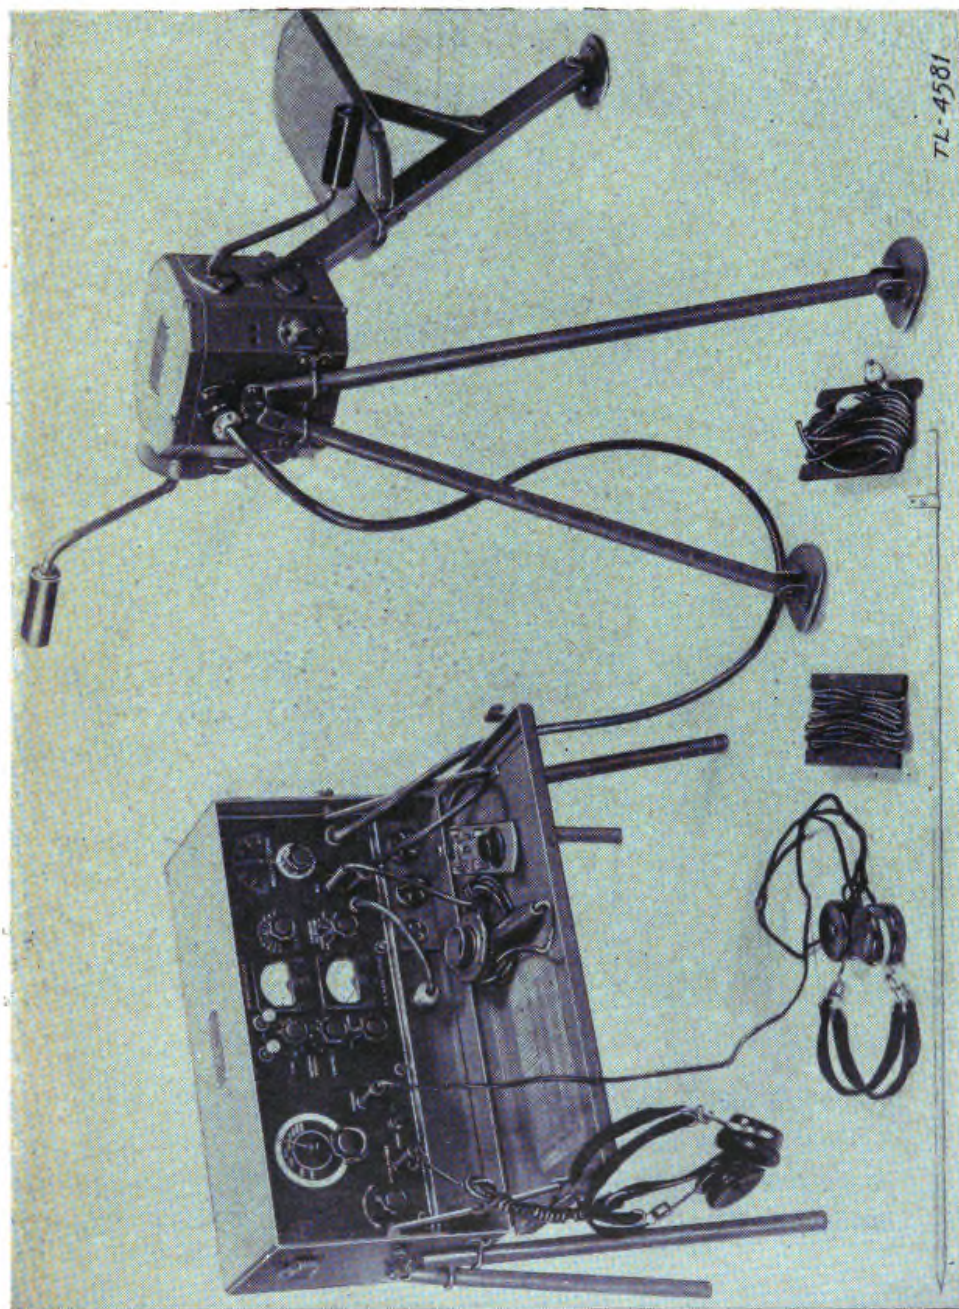

Figure 1.—Radio set SCR-288.
1. General.—Radio set SCR-288 (fig. 1) is a portable amplitude-modulated transmitting and receiving set. The transmitter is designed to operate within the frequency range of 3,500 to 6,300 kilocycles and to deliver 4 watts of power into the antenna for either voice-modulated (phone) or continuous-wave (c-w) operation. The receiver is designed to operate within the frequency range of 2,300 to 6,500 kilocycles on either voice-modulated, tone-modulated, or continuous-wave operation. The approximate reliable communication range is 15 miles for continuous-wave operation and 8 miles for voice-
3. Radio receiver and transmitter BC-474-A.—This unit is housed in a spot-welded aluminum alloy cabinet. Four removable legs are provided so that when set up for operation the equipment is about 12 inches above the ground. The lid of the cabinet is hinged and opens downward, thus making a shelf which provides space for writing and for holding the telegraph key. The receiver and transmitter components are mounted on a single panel and on a chassis which is located in the upper part of the cabinet. The battery pack and filter are located directly under the receiver-transmitter chassis. The filter permits the receiver to be operated by power received from the hand-driven generator. (See fig. 1.)
5. Filter FL-10.—The parts comprising the filter are mounted in a small aluminum box of such size and shape that when in use it may be placed in the lower compartment of the receiver-transmitter case adjacent to the battery pack. (See figs. 1 and 4.)
6. Component parts.—The following is a list of component parts used in radio set SCR-288 (see figs. 1, 2, 3, and 4):